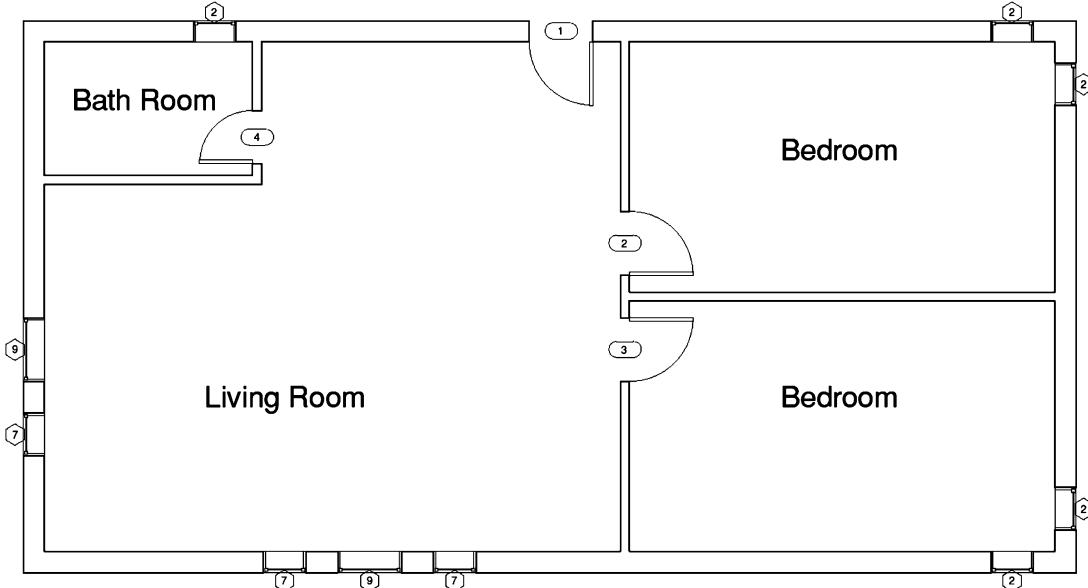

FIGURE 2-5.5 Floor Plan with text at $\frac{1}{4}'' = 1'-0''$
You should now notice that your text and even your door and window tags are half the size they used to be (Figure 2-5.5).
7. Finally, using the *Text* tool, place a room name label in each room as shown in **Figure 2-1.1** and **Figure 2-5.5** below.